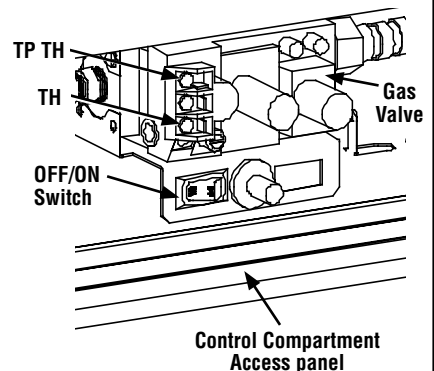

Figure 46
Ground supply lead must be connected to the wire attached to the green ground screw located on the outlet box. See **Figures 46 & 47**. Failure to do so will result in a potential safety hazard. The appliance must be electrically grounded in accordance with local codes or, in the absence of local codes, the National Electrical Code, ANSI/NFPA 70-latest edition. (In Canada, the current CSA C22-1 Canadian Electrical Code).
4. Wire and install the outlet receptacle to junction box, then install into the chosen corner of the control compartment as shown in **Figures 46, 47 and 49**.
Important Note: The gas valve OFF/ON switch is shown in **Figure 46** on **Page 26**. It is integral with the gas valve and should be set to the **ON** position.